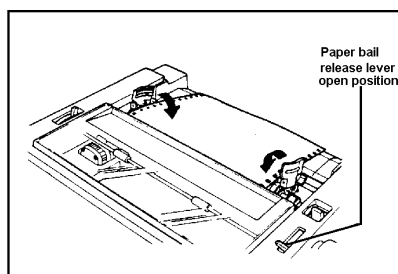

FIGURE 22 - CLOSING TRACTOR COVERS
3.8.3.8 Align the paper sprocket holes with the tractor pins and close the tractor covers (Figure 22).